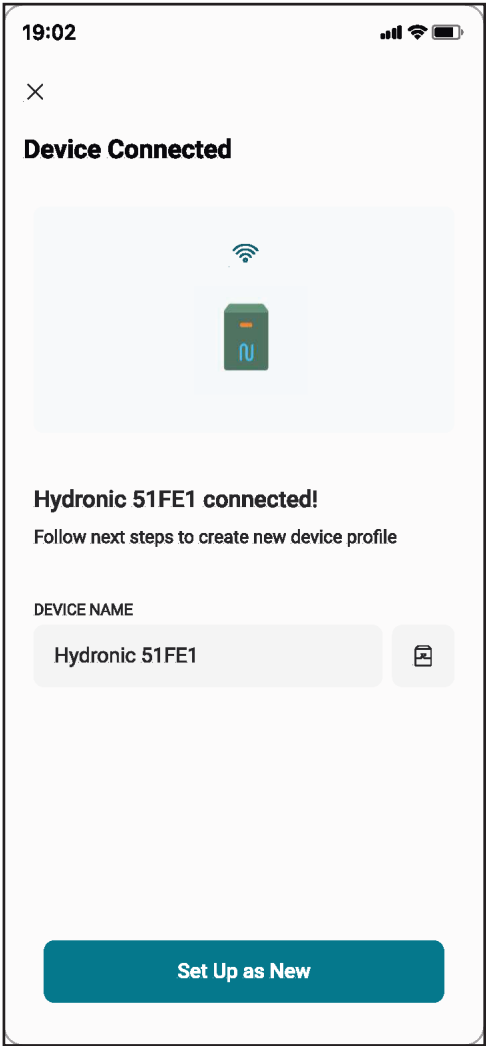

Figure 28. Name Your Unit
1. Your device is now connected to Wi-Fi. You can change the name of your device here. See **Figure 28**.